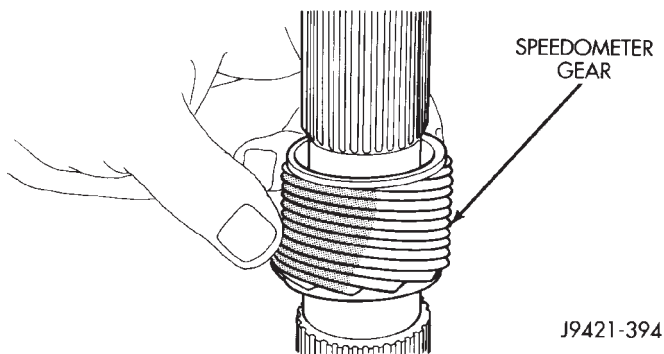

Fig. 31 Speedometer Gear Removal
(17) Remove speedometer gear from mainshaft (Fig. 31).